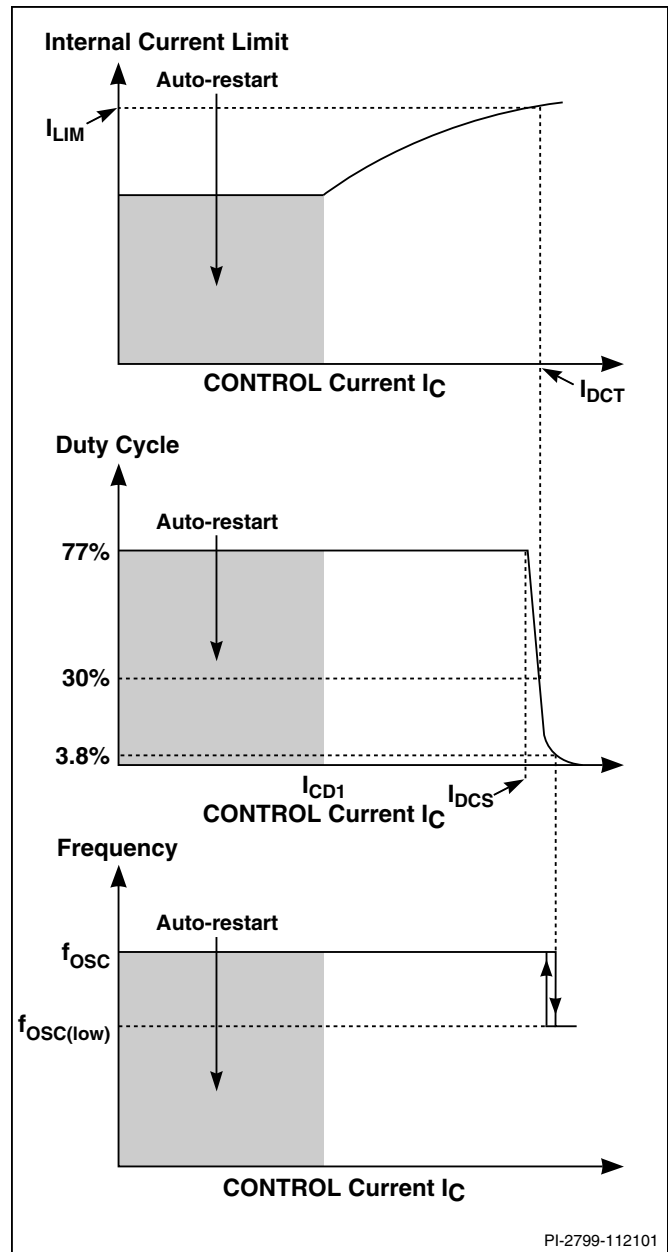
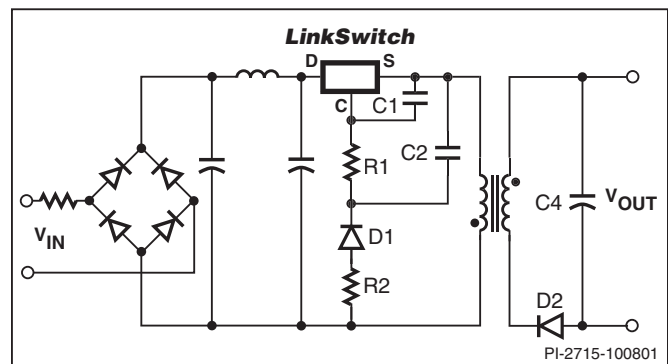
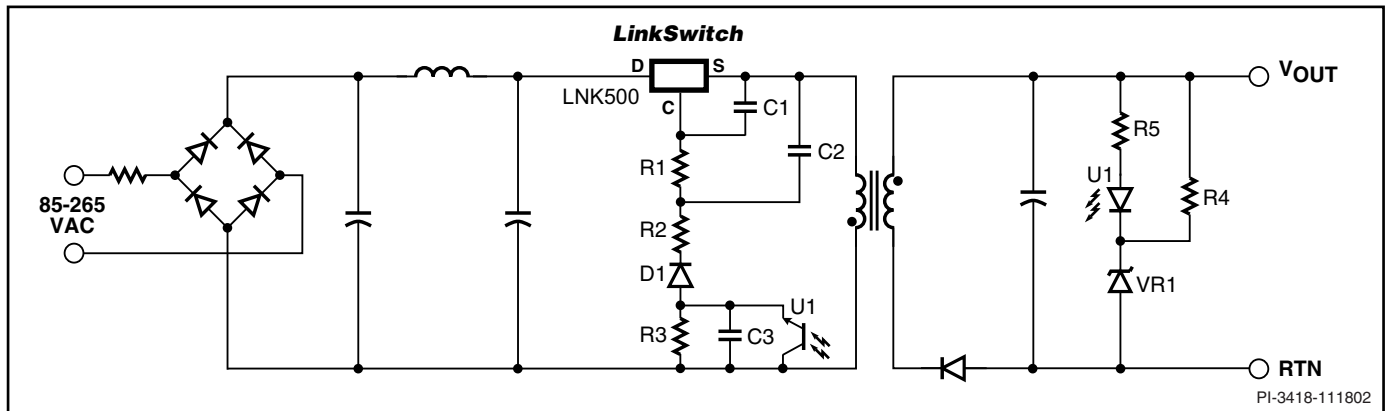

Figure 4. CONTROL Characteristics.
Figure 5. Power Supply Outline Schematic.
Figure 6. Power Supply Outline Schematic with Optocoupler Feedback.
The duty cycle, current limit and operating frequency relationships with CONTROL pin current are shown in Figure 4. Figure 5 shows a typical power supply outline schematic which is used below to describe the LinkSwitch operation.
During power up, as  $V_{IN}$  is first applied (Figure 5), the CONTROL pin capacitor C1 is charged through a switched high voltage current source connected internally between the DRAIN and CONTROL pins (see Figure 2). When the CONTROL pin voltage reaches approximately 5.6 V relative to the SOURCE pin, the high voltage current source is turned off, the internal control circuitry is activated and the high voltage internal MOSFET starts to switch. At this point, the charge stored on C1 is used to supply the internal consumption of the chip.
As the output voltage, and therefore the reflected voltage across the primary transformer winding ramp up, the feedback CONTROL current  $I_C$  increases. As shown in Figure 4, the internal current limit increases with  $I_C$  and reaches  $I_{LIM}$  when  $I_C$  is equal to  $I_{DCT}$ . The internal current limit vs.  $I_C$  characteristic is designed to provide an approximately constant power supply output current as the power supply output voltage rises.
When  $I_C$  exceeds  $I_{DCS}$ , typically 2 mA (Figure 4), the maximum duty cycle is reduced. At a value of  $I_C$  that depends on power supply input voltage, the duty cycle control limits LinkSwitch peak current below the internal current limit value. At this point the power supply transitions from CC to CV operation. With minimum input voltage in a typical universal input design, this transition occurs at approximately 30% duty cycle. Resistor R1 (Figure 5) is therefore initially selected to conduct a value of  $I_C$  approximately equal to  $I_{DCT}$  when  $V_{OUT}$  is at the desired value at the minimum power supply input voltage. The final choice of R1 is made when the rest of the circuit design is complete. When the duty cycle drops below approximately 4%, the frequency is reduced, which reduces energy consumption under light load conditions.
Figure 6 shows a typical power supply outline schematic using LinkSwitch with optocoupler feedback to improve output voltage regulation. On the primary side, the schematic differs from Figure 5 by the addition of R3, C3 and optocoupler U1.
The feedback configuration in Figure 6 is simply a resistive divider made up of R1 and R3 with D1, R2, C1 and C2 rectifying, filtering and smoothing the primary winding voltage signal. The optocoupler therefore effectively adjusts the resistor divider ratio to control the DC voltage across R1 and therefore, the feedback current received by the LinkSwitch CONTROL pin.
When the power supply operates in the constant current (CC) region, for example when charging a battery, the output voltage is below the voltage feedback threshold defined by U1 and VR1 and the optocoupler is fully off. In this region, the circuit behaves exactly as previously described with reference to Figure 5 where the reflected voltage increases with increasing output voltage and the LinkSwitch internal current limit is adjusted to provide an approximate CC output characteristic. Note that for similar output characteristics in the CC region, the value of R1 in Figure 5 will be equal to the value of R1 + R3 in Figure 6.
When the output reaches the voltage feedback threshold set by U1 and VR1, the optocoupler turns on. Any further increase in the power supply output voltage results in the U1 transistor current increasing, which increases the percentage of the reflected voltage appearing across R1. The resulting increase in the LinkSwitch CONTROL current reduces the duty cycle according to Figure 4 and therefore, maintains the output voltage regulation.
transistor voltage and dissipation ratings and should be fully tested before finalizing a design. The values of C2 and C3 are less important other than to make sure they are large enough to have very little influence on the impedance of the voltage division circuit set up by R1, R3 and U1 at the switching frequency. Normally, the values of C2 and C3 in Figure 6 are chosen equal to the value of C2 in Figure 5, though the voltage rating may be reduced depending on the relative values of R1 and R2 discussed above. See Applications section for typical values of components.
The output voltage load variation can be improved across the whole load range by adding an optocoupler and secondary reference (Figure 6). The secondary reference is designed to only provide feedback above the normal peak power point voltage to maintain the correct constant current characteristic.
The schematic shown in Figure 5 outlines the key components needed for a LinkSwitch supply.
Since the SOURCE pins in a LinkSwitch supply are switching nodes, the copper area connected to SOURCE together with C1, C2 and R1 (Figure 5) should be minimized, within the thermal constraints of the design, to reduce EMI coupling.